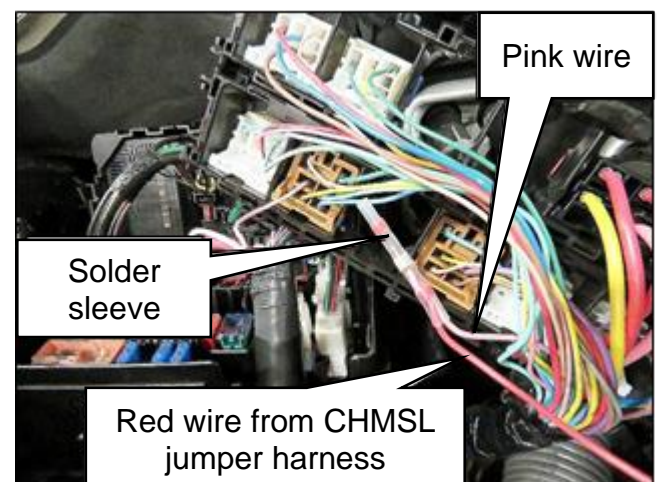

Figure 17
13. Twist together the red wire from the CHMSL jumper harness and the pink wire from the reverse lamp relay connector, and then slide on a solder sleeve, as shown in Figure 17.